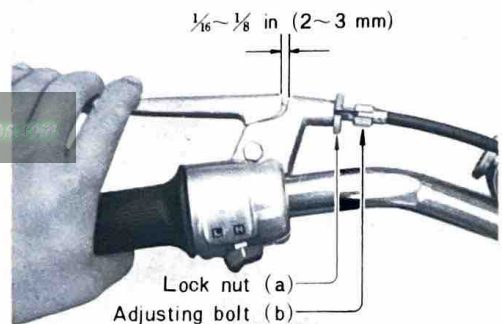

Fig. 4-9-15
- b. To reduce the play of the cable, loosen the adjusting screw, and to increase the play, tighten the screw. Adjust clutch lever free play to 2~3 mm. (Fig. 4-9-15)
- B. Adjustment on the upper part of the clutch cable. (Refer to Fig. 4-9-15).